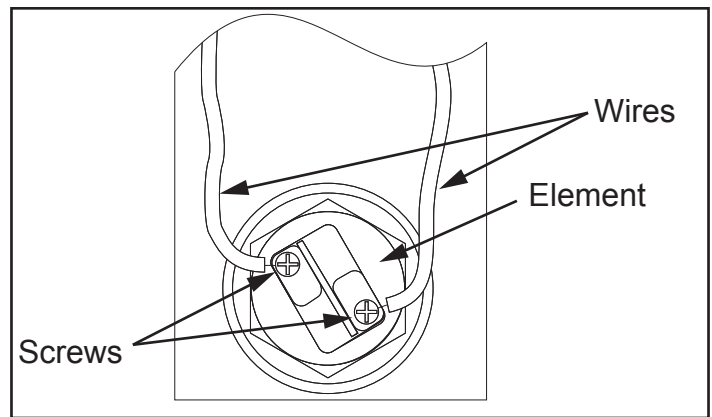

Figure 12. Heating Element Wiring
8. Disconnect the electrical wires from the heating element by loosening the screws (Figure 12). Remove the screw-in element by turning the element counterclockwise with a 1-1/2 inch socket wrench. Remove the existing gasket.
11. Close the drain valve and open the nearest hot water faucet. Then open the cold water shut off valve and allow the tank to fill completely with water. To purge the lines of any excess air and sediment, keep the hot water faucet open for three (3) minutes after a constant flow of water is obtained.
13. Reconnect the electrical wires to the element and securely tighten the screws (Figure 12).